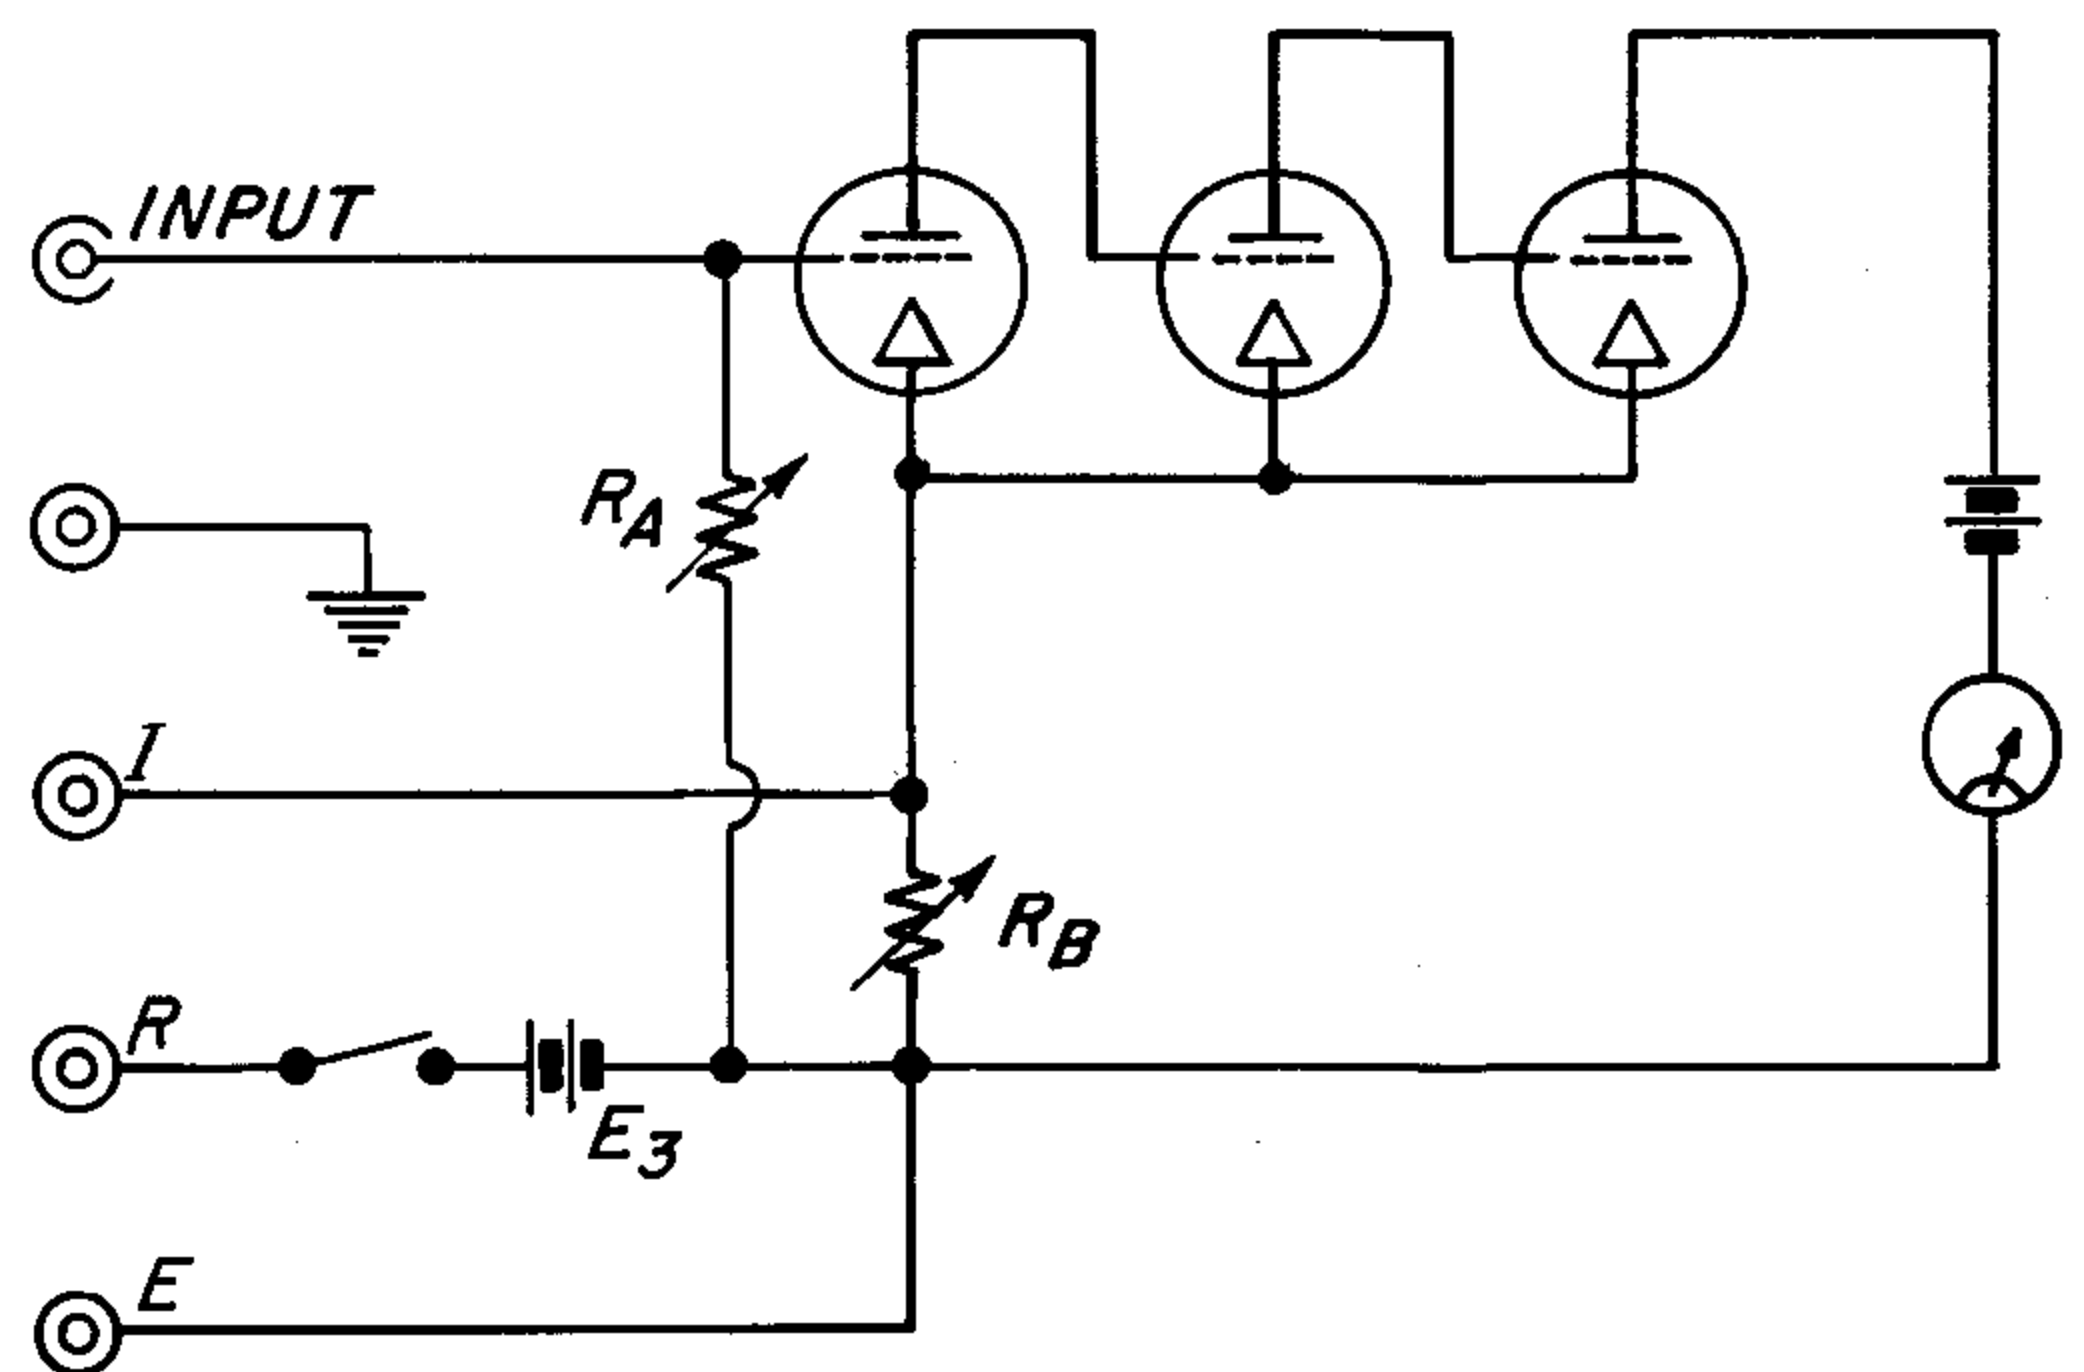

Figure 3. Guard-Point Arrangement.
2.2.2 A second method of measuring current results in an appreciably lower "ammeter resistance". Since the voltage at the input and the voltage across R_B are practically equal and of the same polarity, the voltage difference from the high INPUT terminal (grid of first tube) to the high side of R_B (I , Figure 3) is very small (about $150 \mu\text{v}$ at full scale). Any current source connected between these two points cannot develop appreciable voltage between the points, and the "ammeter resistance" is therefore very low. The unknown current, however, still flows through R_A , and therefore the instrument indicates current in the same manner as that described in paragraph 2.2.1. The lower "ammeter resistance" is obtained at some sacrifice in stability, however, if the source impedance is relatively low. (Refer to paragraph 4.3.)
2.3 RESISTANCE MEASUREMENTS. Resistance measurements are made by means of an auxiliary voltage, E_3 (9.1 volts if internal, any voltage up to at least 600 volts if external), connected in the series network of standard and unknown resistors (see Figure 3). The resultant voltage drop across the standard resistor is a measure of the unknown resistance. The meter is calibrated to indicate this resistance directly when E_3 is internal.
For measurement of three-terminal resistances or ungrounded resistances, a more flexible guard-ground system is desirable. To meet these situations, the Type 1230-A D-C Amplifier includes three guard terminals (I, R, and E), with provision for grounding any one of the three. Figure 3 shows the guard-point arrangement.